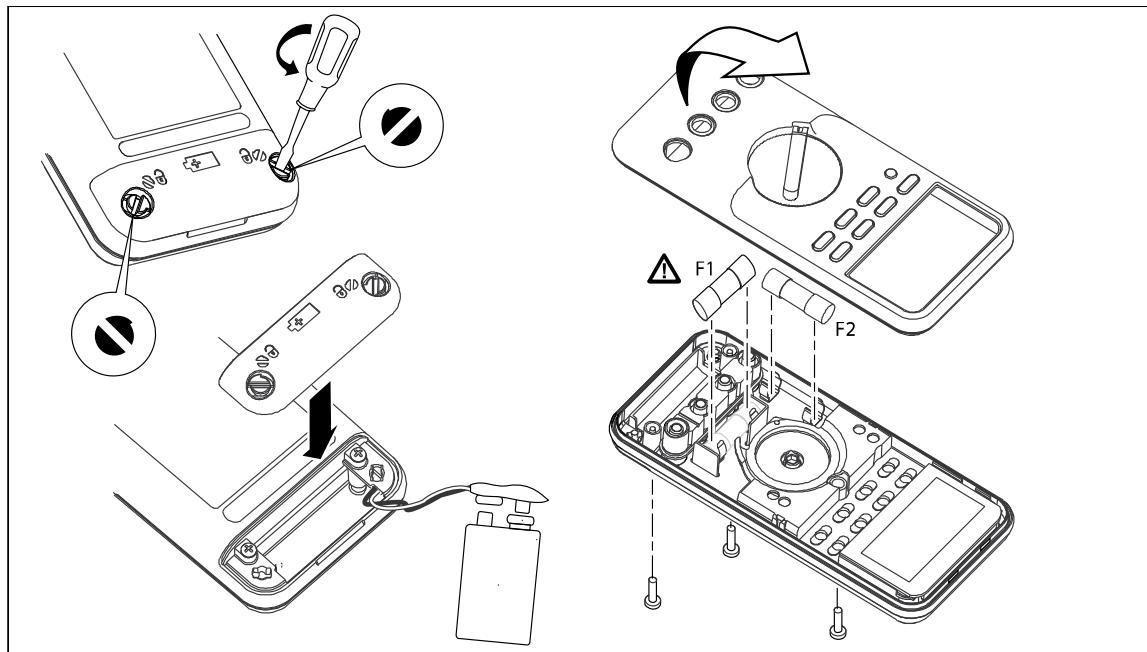

Figure 1. Opening the Meter, Battery and Fuse Replacement
To open the Meter case, refer to Figure 1 and do the following:
6. Gently unsnap the case top at the display end, see Figure 1.
5. Properly seat the case gasket and snap the case halves together above the LCD end. See Figure 1.